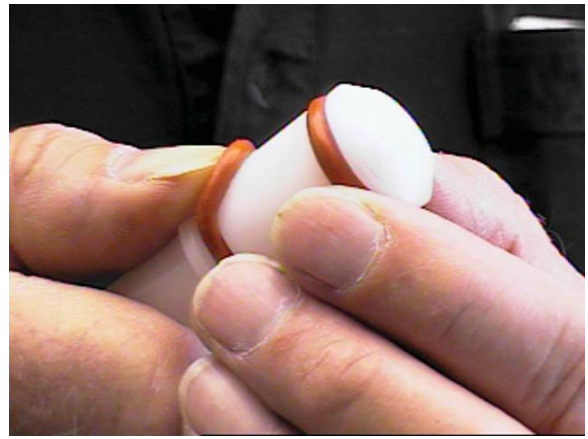

Figure 3-4 Removing O-Ring
6. Remove all o-rings from parts by first wiping off the lubrication using a clean towel. Then squeeze the o-ring upward to form a loop (Fig. 3-4). Roll the o-ring out of the groove.